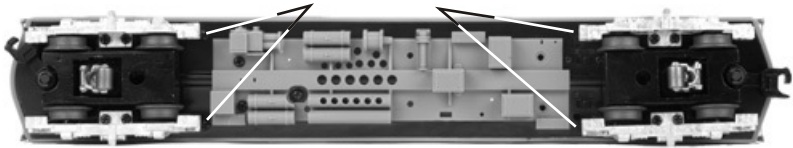

Figure 9
2. Remove the shield around the electronics by removing the 4 screws from the bottom.(Figure 9)